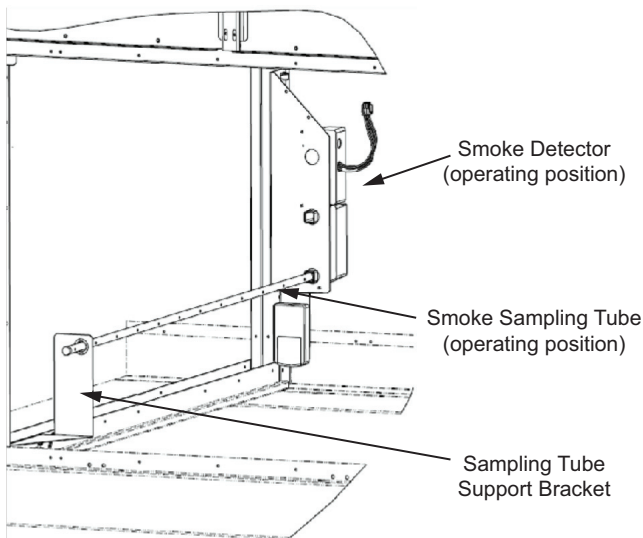

Fig. 53 — Smoke Detector Operating Position
3. Rotate the shipping bracket outward 90 degrees so that the smoke detector is in the operating position. The back of the detector should be facing the air stream (see Fig. 53).
5. Insert the closed end of the sampling tube into the sampling tube support bracket (see Fig. 53).